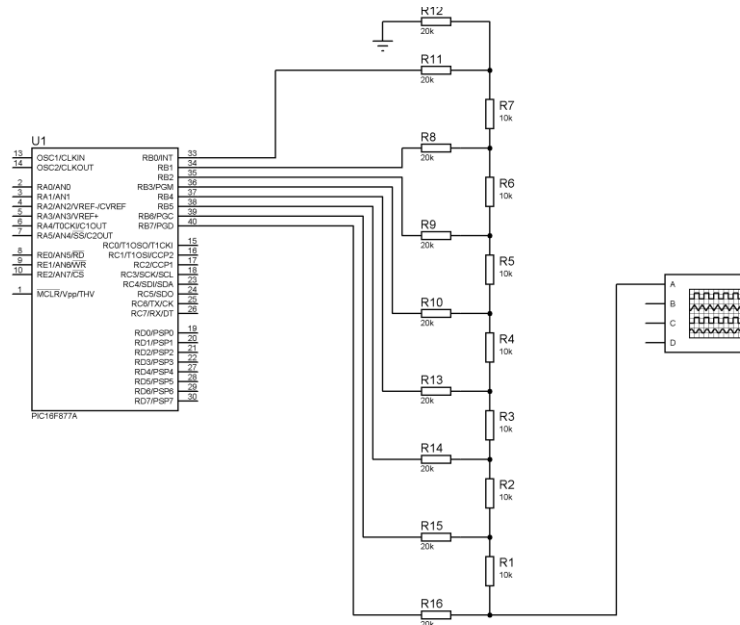

Figure-1: R-2R Ladder Circuits
- 1) Design R-2R Ladder circuit like in the **Figure-1**. Use it as a Digital Analog Converter (DAC). Generate saw tooth, triangle and square waves by using CCS C in PIC16F877A.